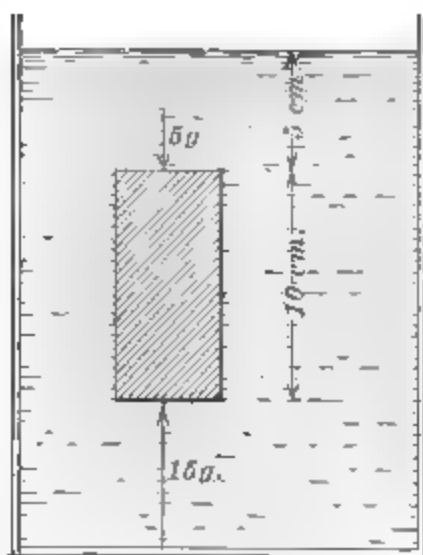

FIG. 60. — Lifting effect of water on submerged block.
66. Explanation of Archimedes' principle. This principle will be readily understood from the following example. Suppose we place a rectangular block in a jar of water, as shown in figure 60. Let the block be $10 \times 6 \times 4$ centimeters and let the top be 5 centimeters below the surface of the water, and the bottom 15 centimeters beneath the surface. Then the pressure on top, that is, the downward push on each square centimeter, is 5 grams and the pressure on the bottom, that is, the upward push on each square centimeter, is 15 grams. Since the top and bottom each have an area of 6×4 , or 24 square centimeters, the whole upward push on the bottom is 24×15 , or 360 grams, while the whole downward push on the top is only 24×5 , or 120 grams. This leaves a net upward force or buoyancy of 240 grams. But this is exactly the weight of the displaced water, for the volume of the displaced water is $10 \times 6 \times 4 = 240$ cubic centimeters, and we have seen in section 11 that this much water weighs 240 grams.